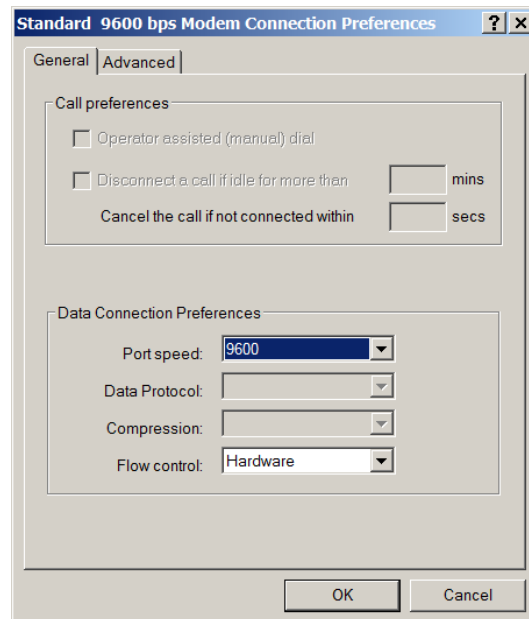

Figure 9-2 Modem Connection Preferences Dialog Screen
- d. Select **Configure Line...**, TapTalk displays the **Modem Connection Preferences** dialog screen (Figure 9-2).